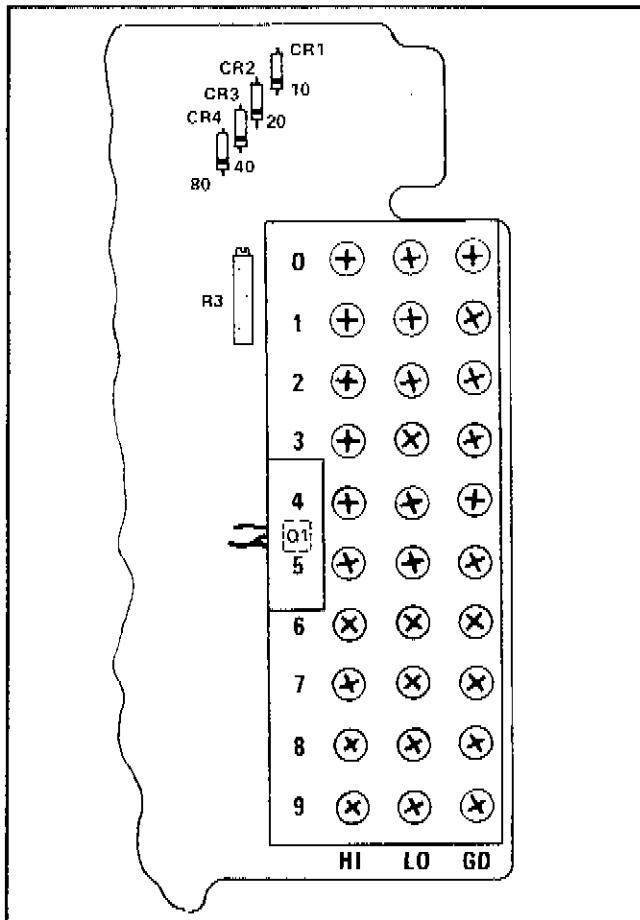

Figure 6-10. THERMOCOUPLE CONNECTIONS AND CALIBRATION ADJUSTMENT LOCATIONS
- b. Slide the lower pcb out of the 2150A case and make the thermocouple connections (see Figure 6-10.)
6-77. When the 2150A is used with a 2100A, equipped with the -02 option (DOU), the channel identification of each decade is determined by selecting and removing the proper diodes from the 2150A pcbs. Figure 6-10 shows the four channel identification diodes, CR1, CR2, CR3 and CR4, which correspond to decades 10, 20, 40, and 80 respectively. Identification of each decade of the 2150 is accomplished in a binary coded manner. To identify the units decade, leave all diodes in place, identify the tens decade by removing CR1, the twenties decade by removing CR2, the thirties decade by removing both CR1 and CR2, and so on until the diodes of each pcb have been selected to provide the proper channel identification code.